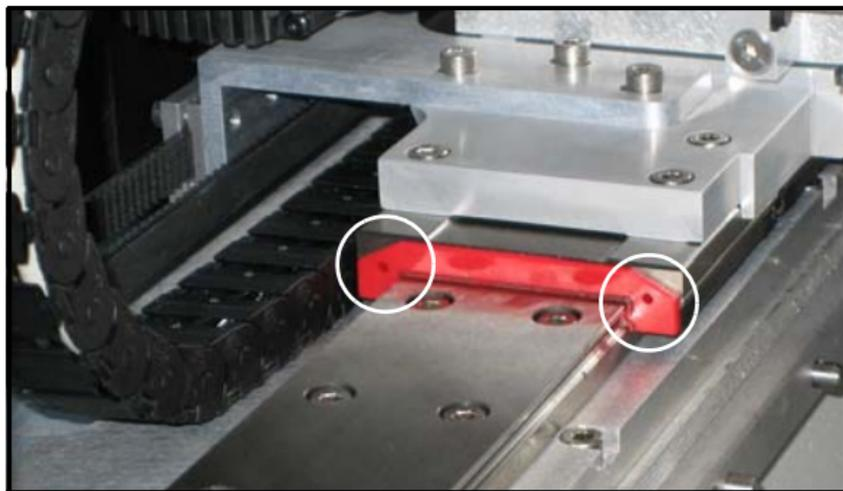

Figure 13 — Two lubrication holes on plate.
4. Using the supplied tube with a needle end, apply the lube to the two holes in the plate at one end of the carriage. See Figure 13. Apply 0.33 cm^3 (.33 milliliters) (.011 oz.) per plate, with half (0.17 cm^3) applied to each lubrication hole.